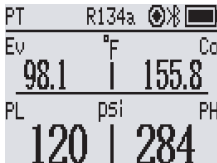

Figure 8 Data record icon
4.Start recording : Click to Recording , the recording icon on the device lights up and starts to flash (Figure 8 ) .
① The device can record up to 3000 pieces of data.